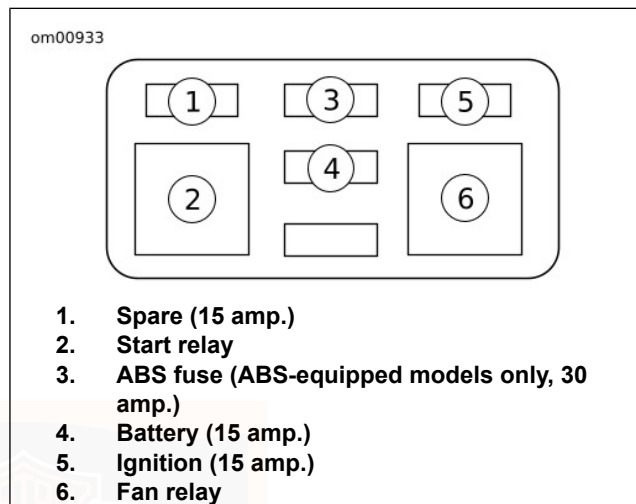

Figure 64. Front Fuse Block: VRSC Models
4. See Figure 64. Remove the suspect fuse and inspect the element. Replace the fuse if the element is burned or separated.